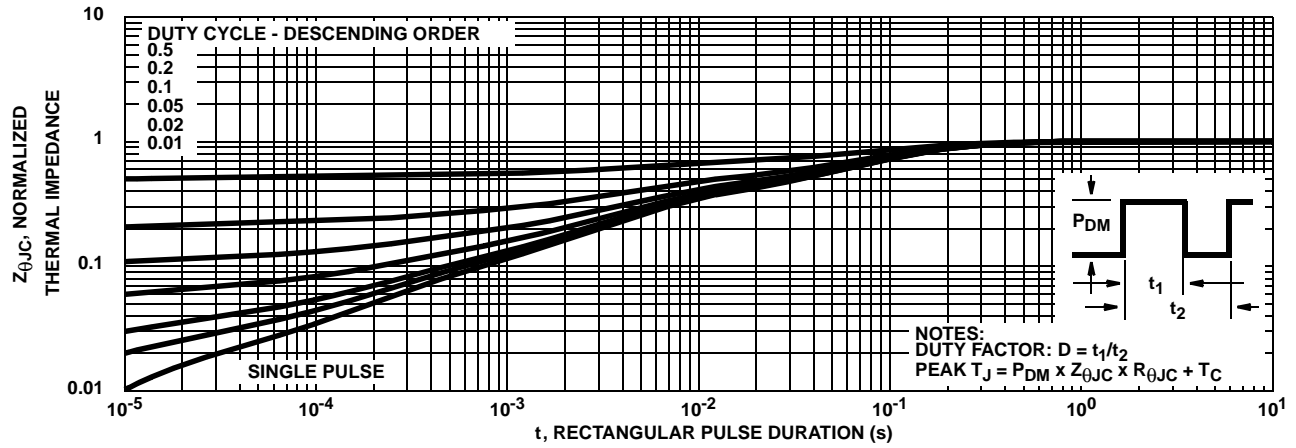

FIGURE 11. NORMALIZED MAXIMUM TRANSIENT THERMAL IMPEDANCE
2. Repetitive rating; pulse width limited by maximum junction temperature (See Figure 11)